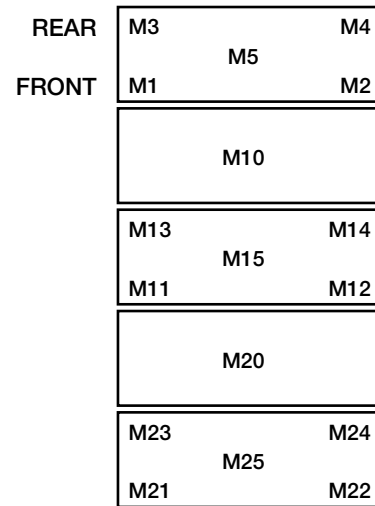

Figure 1. Diagram showing locations for marketing thermocouples.
Our TDSs contain a diagram for the locations of what we call our marketing thermocouples (Figure 1). These are unweighted type T thermocouples (TCs) placed throughout the usable volume of the cabinet. For models with a load limit line, the TCs on the top shelf are placed below the load limit line.
- TCs are placed on the shelves 3 inches from the walls and distributed below the load limit line, if a load limit line is present, as per Figure 1.